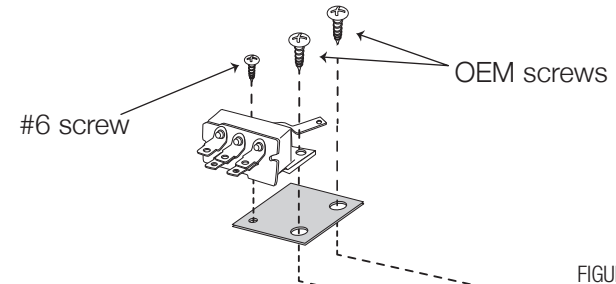

FIGURE 4
1) There are four screws that hold the OEM control unit in the dash. Remove the screws and set the assembly aside (see figure 4).
- 2) Using the blower switch base bracket, attach the supplied blower switch to the control head on the right hand side (from the top). Use two the OEM screws and one #6 - 20 x 3/8" Phillips Screw (see figure 4).